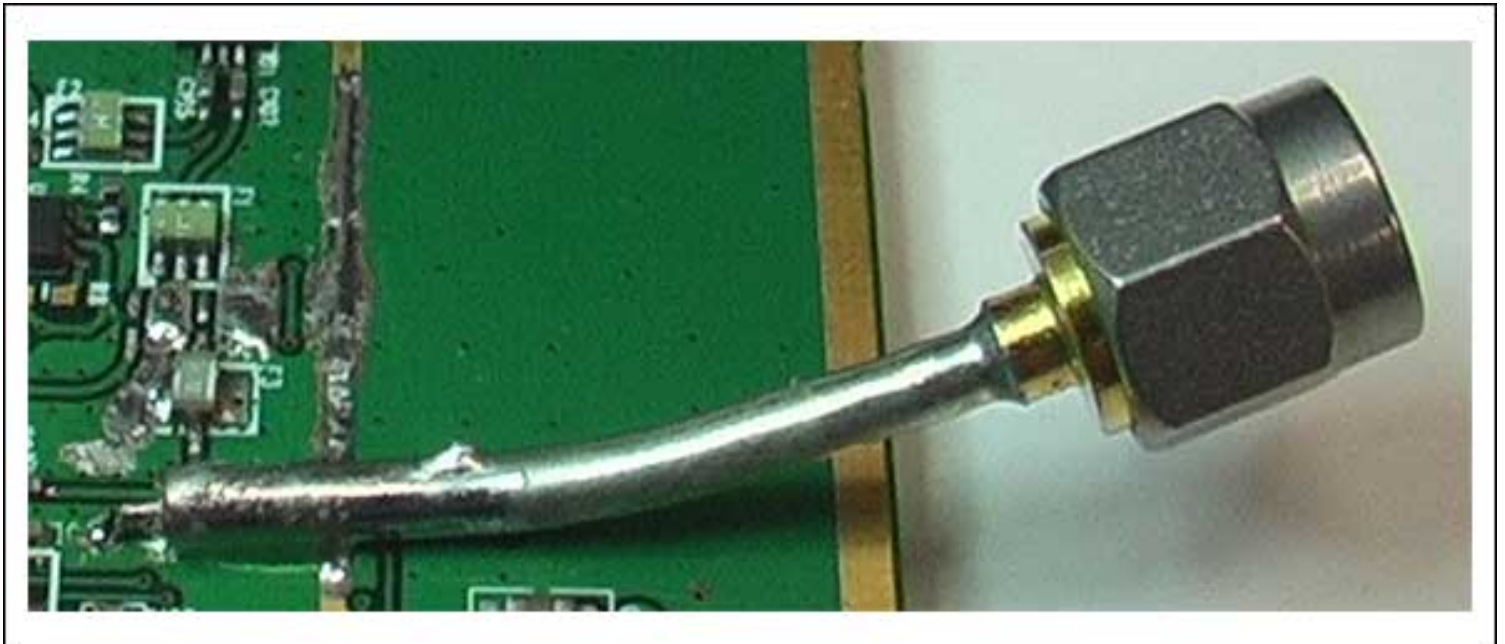

Figure 1. Sealed microcoaxial cable, good to 5GHz+.
One of the challenges faced by anyone involved in contemporary radio design and debug is being able to accurately measure portions of a signal path that are not connectorized. For instance, how does one measure the insertion loss (S21) of a filter if the input end is coupled to a diplexer and the output to an LNA? Or, perhaps the output power and linearity of a power amplifier (PA) is in question, but it happens to connect to a diplexer on one end and a Tx driver on the other? The answer to these scenarios (and many others) lies in the careful use of a semi-rigid micro-coaxial cable, commonly referred to as a "pigtail" (**Figure 1**).
To get the most out of a pigtail, some guidelines should be followed. First, consider the frequency at which the measurement will be made. A handmade cable with coaxial cable connected to an SMA edge-mount connector may be acceptable at frequencies up to 2GHz. Above 2GHz, however, these become unpredictable in regards to return loss and impedance due to the SMA-to-coaxial transition (**Figure 2a, 2b**). For higher frequencies, a 'sealed' cable assembly is probably more appropriate (Figures 1, **3**). Sealed cables can sometimes be found at local used parts and equipment